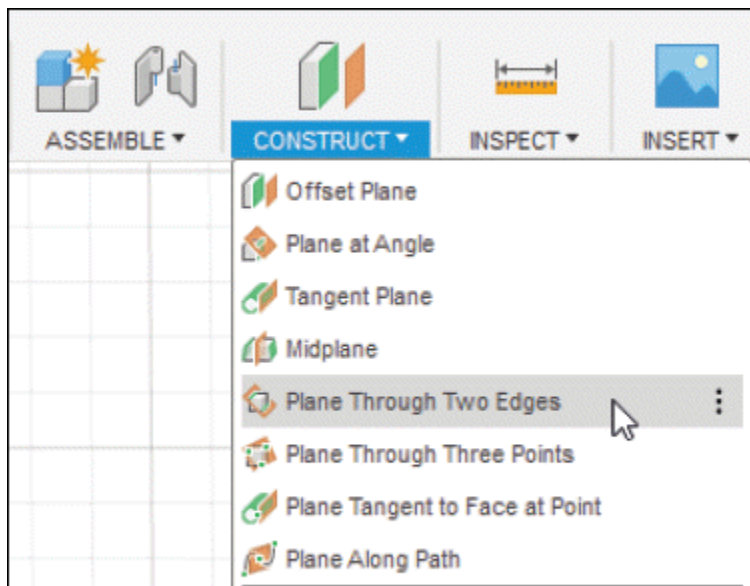
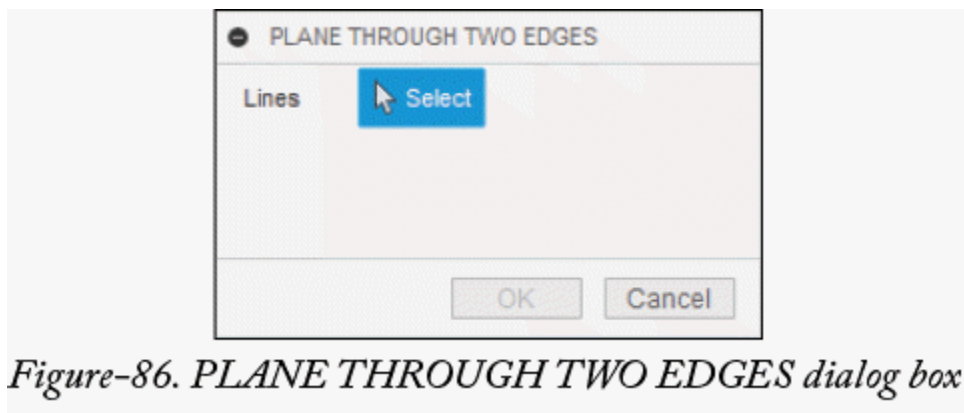

Figure-85. Plane Through Two Edges tool
Figure-86. PLANE THROUGH TWO EDGES dialog box
- Click on the **Plane Through Two Edges** tool of **CONSTRUCT** drop-down from **Toolbar**; refer to Figure-85. The tool will be activated and the **PLANE THROUGH TWO EDGES** dialog box will be displayed; refer to Figure-86.